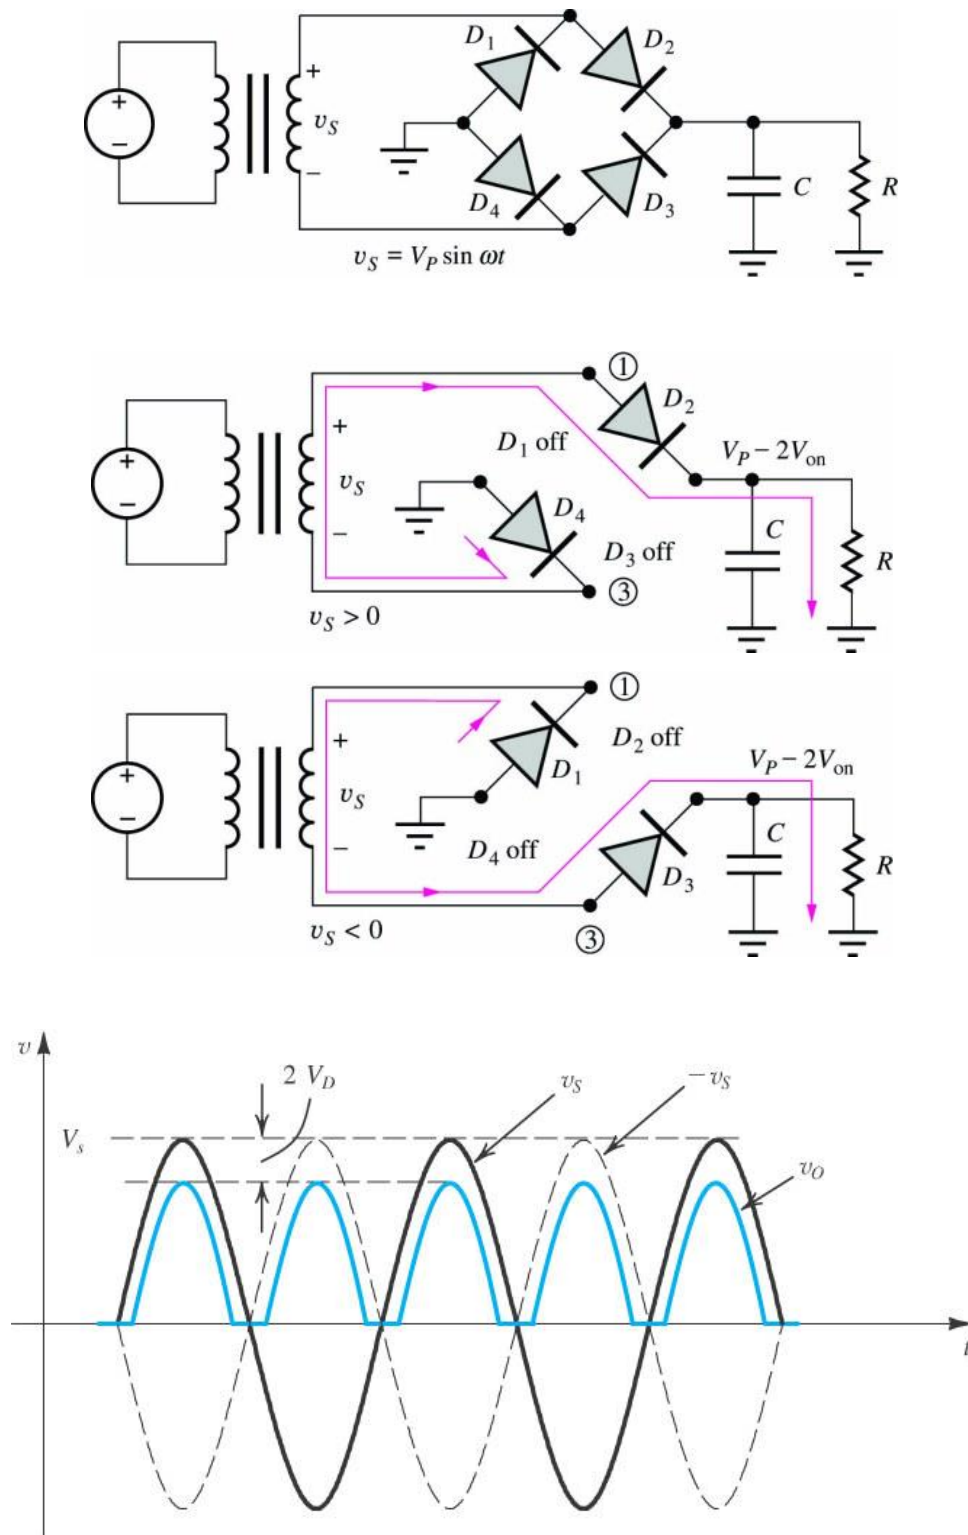

Figure 6-3-4: A full-wave bridge rectifier and its output waveforms.
6. Figure 6-3-4 shows a **full-wave bridge rectifier** using four diodes.